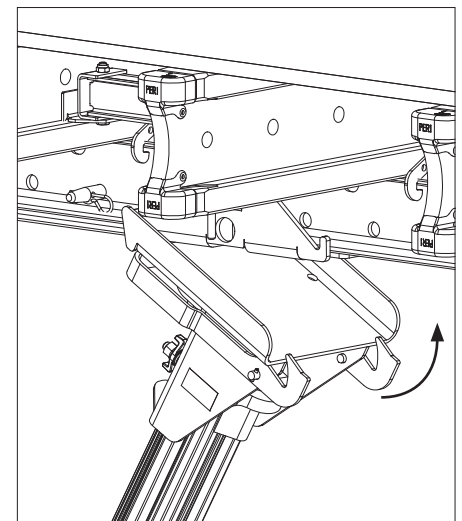

Fig. A2.05b
4. Pivot the MULTIPROP MP (11) until it is in a vertical position. (Fig. A2.05b)